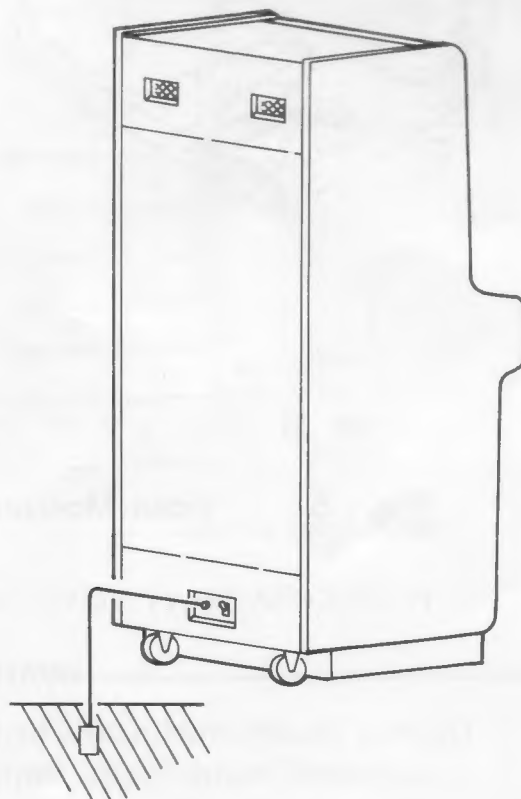

Fig. 4 Grounding of Game
(3) Grounding of Game (Use only if 3 wire outlet is unavailable.) See Fig. 4